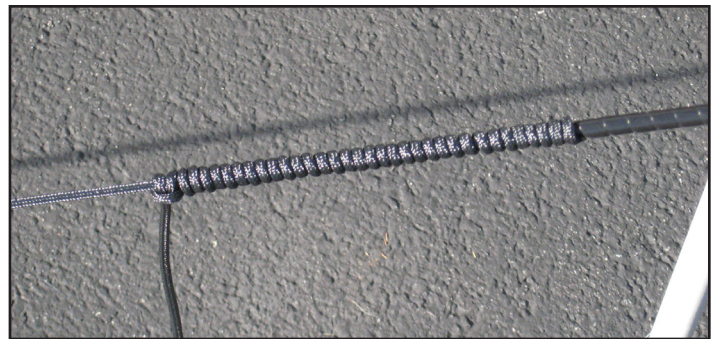

Fig. 102
- Dress the excess Lanyard by winding the excess upon the Lanyard. Secure with a half-hitch knot as shown in Fig. 102.